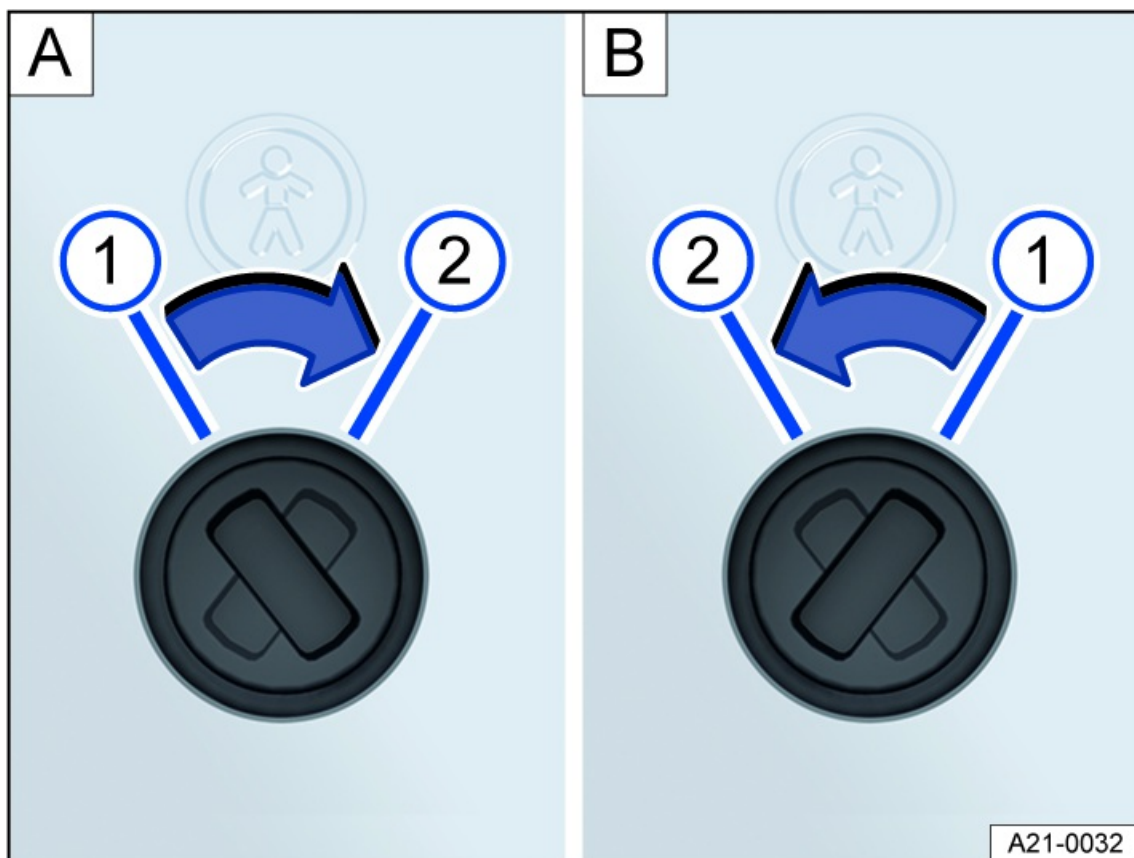

Fig. 48 Child safety lock: **A** left rear door, **B** right rear door.
2. Bring the slot into the corresponding position *fig. 48*.